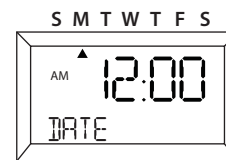

Figure 4
- Press **SETUP/PGM** once, and **DATE** will appear on the display. See Figure 4.